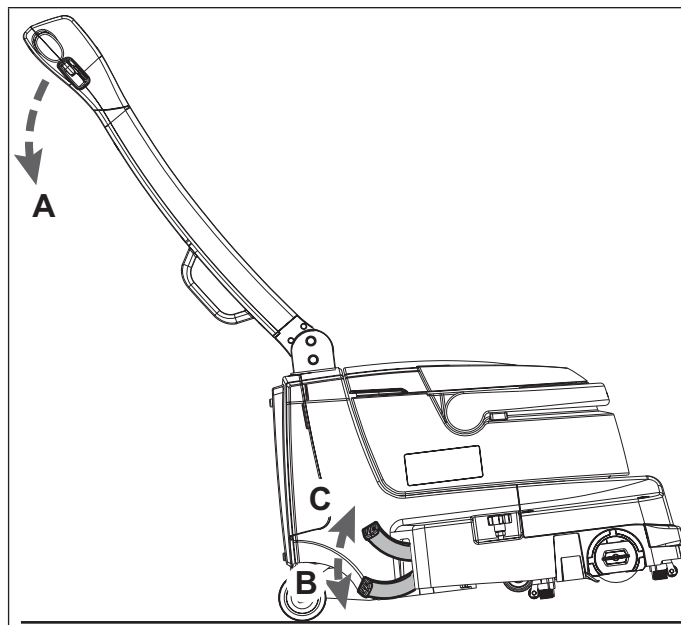

Figure 1
In order to facilitate the use of the park pedal (10), slightly lift the front section of the machine by gaining leverage with your hands on the handlebar (A, Fig. 1).
1. Putting your hands on the handlebar (A), slightly lift the front section of the machine, then press the pedal (B, Fig. 1). In this condition, the front wheels (11) are resting on the floor and the brush/squeegee unit is lifted.